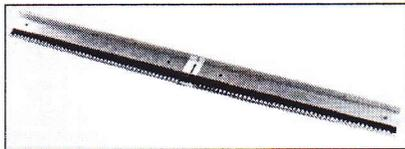

Fig 2
2. Place the "L" shaped stiffener bar (B) over the 2 serrated blades (A) with the arrow pointing away from you (figure 2).